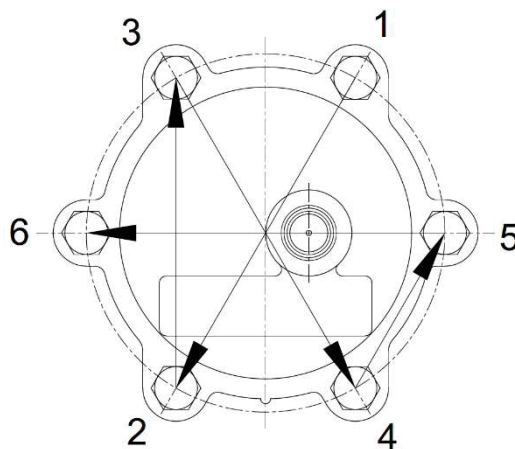

Figure 4
- Cap bolts connected with body flange must be screwed alternately, diagonally and evenly. (See. Figure4)